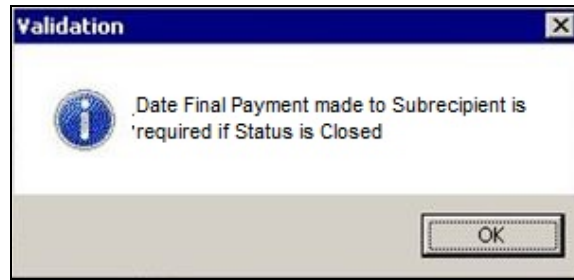

Figure 11-39: Validation message: Date Final Payment made to Subrecipient is required if Status is Closed
- If project Status = Closed then Date Final Payment made to Subrecipient is required (Figure 11-39).